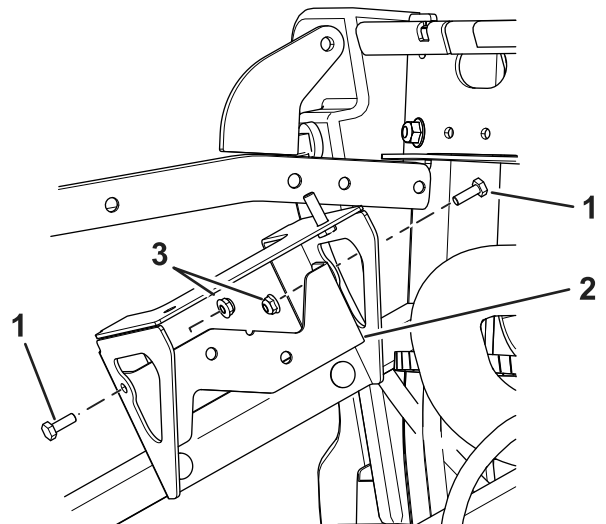

Figure 5
1. Install the bracket to the air-cleaner bracket with 2 bolts (1/4 x 3/4 inch) and 2 nuts (1/4 inch); refer to Figure 5.